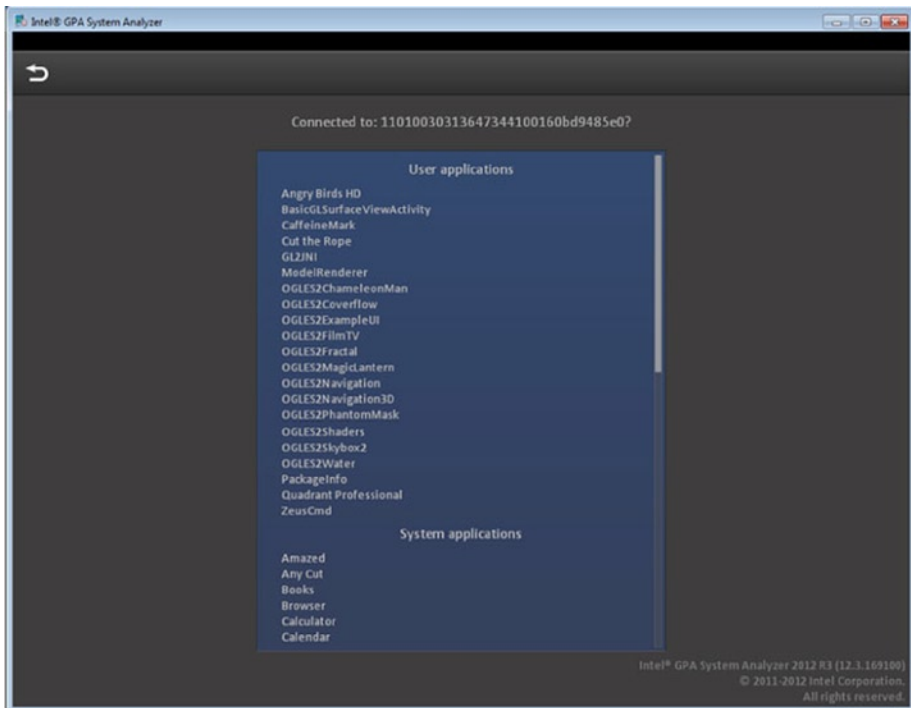

Figure 8-28. Applications List
6. Select the desired application from the list of available ones. The Application List screen (see Figure 8-28) displays all user and system applications installed on the Android device.